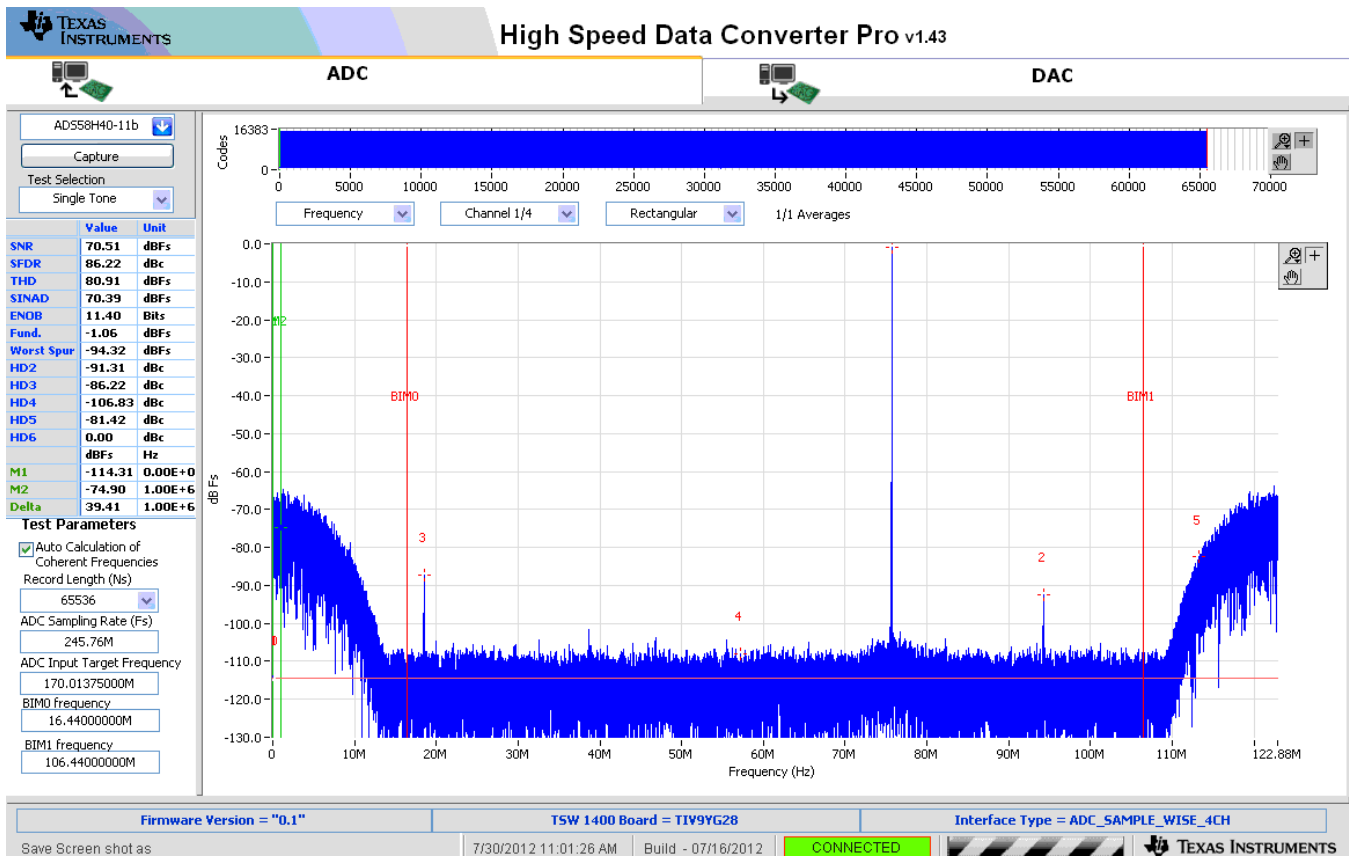

Figure 12. ADS58H4x 11-bit SNRBoost Mode, Single Tone Test Result:  $F_s = 245.76$  MSPS,  $F_{in} = 170$  MHz
- Observe an FFT result similar to that of Figure 12.